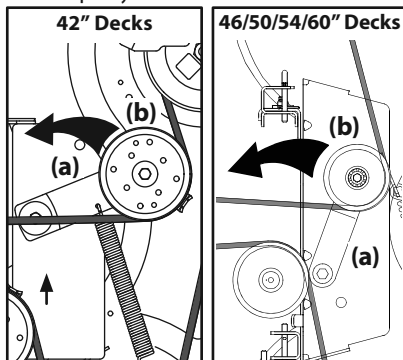

Figure 42
- Using the deck lift handle or the deck lift pedal and knob, raise the deck to the position that provides the most horizontal run of the belt between the deck idler pulleys and the PTO pulley on the bottom of the engine. See Figure 42.
- Working from the middle of the tractor, pivot the idler bracket (a) and movable idler pulley (b) rearward just far enough to lift the belt up and over the spindle pulley. See Figure 42.